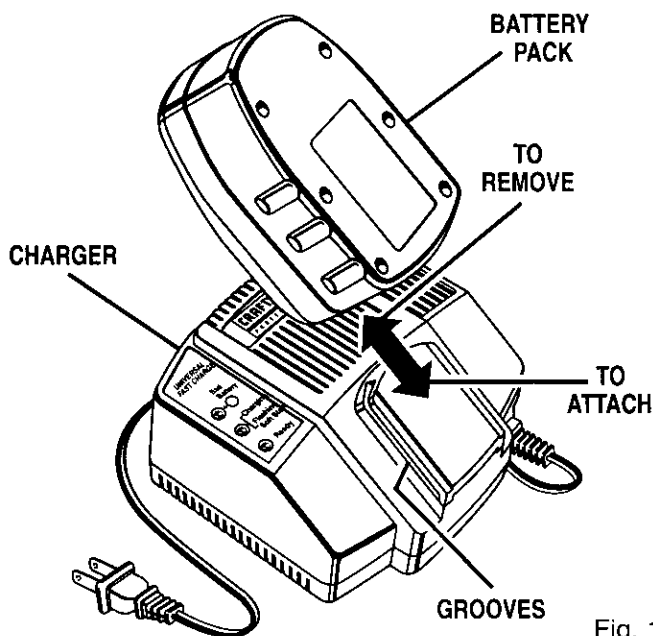

Fig. 10
- Attach battery pack to charger by aligning raised ribs on battery pack with grooves in charger, then slide battery back onto charger. See Figure 10.